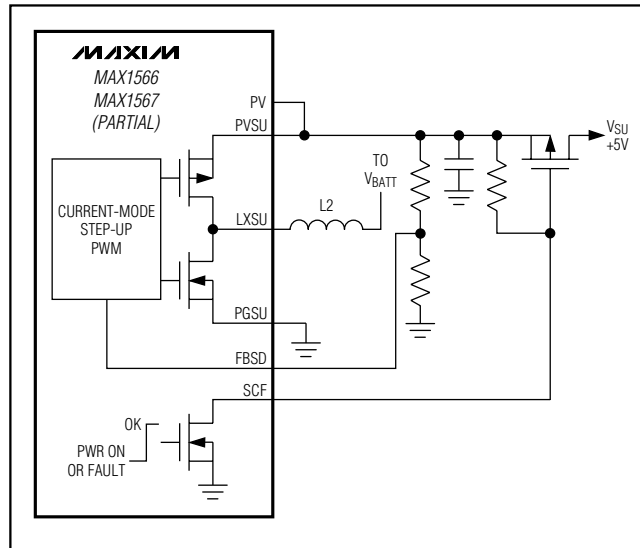

Figure 17. SCF Drives PFET Load Switch on 5V to Disconnect Load on Fault and Allow Full-Load Startup
**SCF** goes high (high impedance, open drain) when overload protection occurs. Under normal operation, SCF pulls low. SCF can drive a high-side P-channel MOSFET switch that can disconnect a load during power-up or when a channel turns off in response to a logic command or an overload. Several connections are possible for SCF. One is shown in Figure 17 where SCF provides load disconnect for the step-up on fault and power-up.
If a soft-short or overload remains on PVSU, the startup oscillator switches the internal N-channel MOSFET, but fault is retriggered if regulation is not achieved by the end of the soft-start interval. If PVSU is dragged below the input, the overload is supplied by the body diode of the internal synchronous rectifier, or by a Schottky diode connected from the battery to PVSU. If desired, this overload current can be interrupted by a P-channel MOSFET controlled by SCF, as shown in Figure 17.
up may have difficulty starting into heavy loads (see the Minimum Startup Voltage vs. Load Current (OUTSU) graph in the *Typical Operating Characteristics*); however, this can be remedied by connecting an external P-channel load switch driven by SCF so the load is not connected until the PVSU is in regulation (Figure 17).